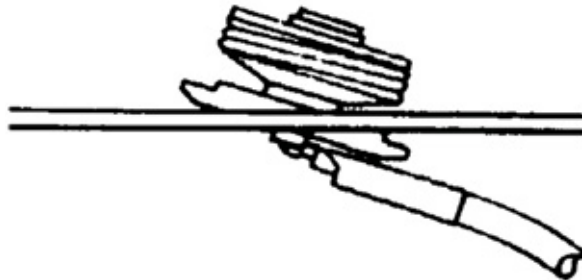

Figure 2.
2. Apply generous amounts of silicon grease to inner and outer threads of brass lock nut. Feed coaxial cable and mount through hole as shown in Figure 2.